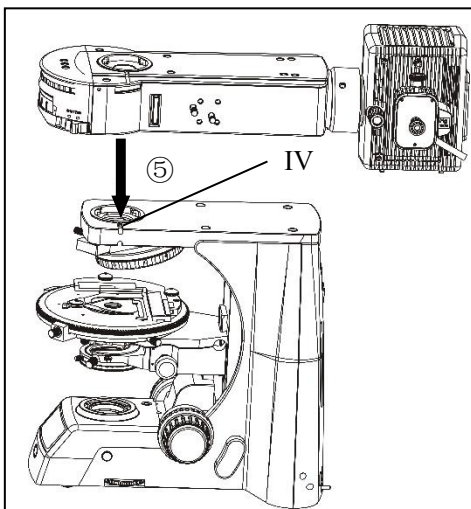

Figure 7
**4-2-5 Install metallographic device (Figure 7)**
Load the gold phase unit into the head of the microscope body in accordance with the mid-sequence number⑤ in Figure 7, transfer to the appropriate position, and tighten the screws (at IV in Figure 7) with a hex wrench to secure them.